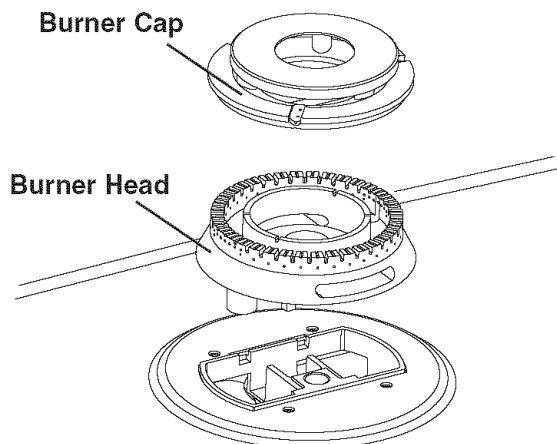

Figure 11
- C. **Triple Burner (if equipped):** Remove all tapes from burner cap. Remove the burner cap and head. Remove and discard the packaging material. Replace head and cap on the triple burner. **Be careful not to damage the electrode while placing the head over the orifice.** Make sure electrode fits correctly into slot in burner head (see Figure 11).